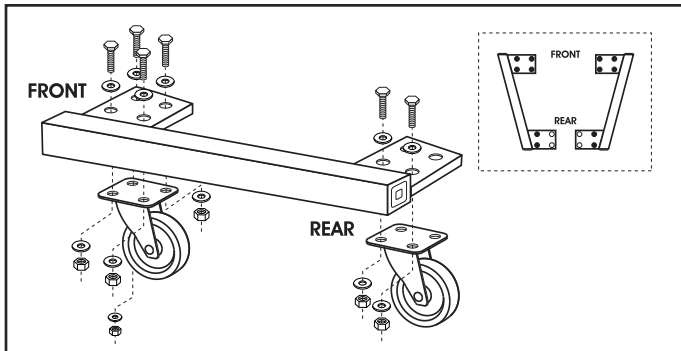

Figure 1
2. Attach front casters fully using one bolt, one nut, and two washers per hole. (See Figure 1)